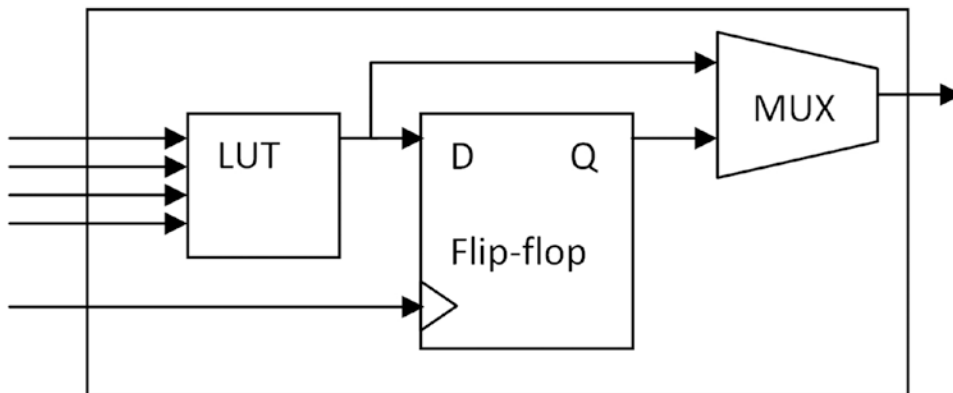

Figure 1-2. Basic configurable LEs
The logic element (LE) is one of the smallest elements in FPGA design. It basically consists of a look-up table (LUT), flip-flop, and multiplexer (which we will cover shortly). FPGAs are used extensively for compute problems that can benefit from parallel computing architectures—for example, cleaning up images being received from an image sensor, local processing on image pixels, and computing difference vectors in H.264 compression. LEs can form any complex or even simple digital function inside the FPGA. Figure 1-2 shows the basic configurable logic elements. Although different FPGA vendors have their own LE designs, they are very similar to the one shown in Figure 1-2. Most of the inputs to a LE are connected to the LUT and followed with a flip-flop (register). The output of the LE is selected by a multiplexer (MUX). The LUT and MUX are the major configurable blocks in the LE. Don’t worry, this will all make sense after you read the next section.
The LUT is basically just a small amount of read-only memory. A four-input, one output LUT, can generate any four-input Boolean function (AND/OR/XOR/NOT) (Figure 1-2). We will provide more details on Boolean function in Chapters 8 and 9. When you configure the FPGA, the contents of the LUT will be configured accordingly. Table 1-2 shows an OR gate with all four possible inputs the LUT supports. The four inputs act as an address bus, addressing one of 16 (2^4) stored bits; therefore it can emulate any Boolean function that can be handled in 4 bits (Figure 1-3). In some FPGA LE designs, LUTs can be combined to form a 16-bit shift register or memory block. There is another similar block, the MUX, in the basic LE. It is used to select the output source from a register or directly from LUT. In reality, the LEs are a bit more complex in that they may very well have more than one LUT and MUX.